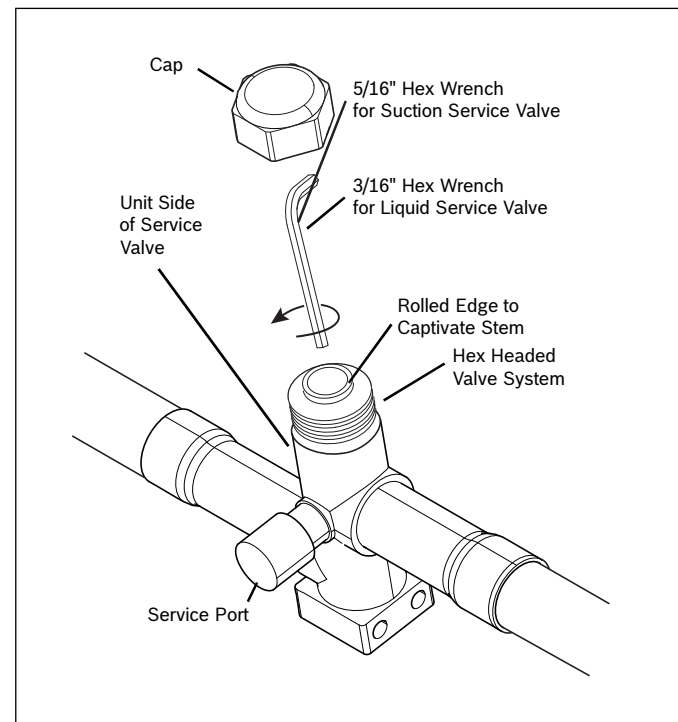

Figure 23
1. Remove Service Valve Cap (Fig. 23).
2. Fully insert hex wrench into the stem and back out counterclockwise until valve stem just touches the rolled edge (approximately five (5) turns.)